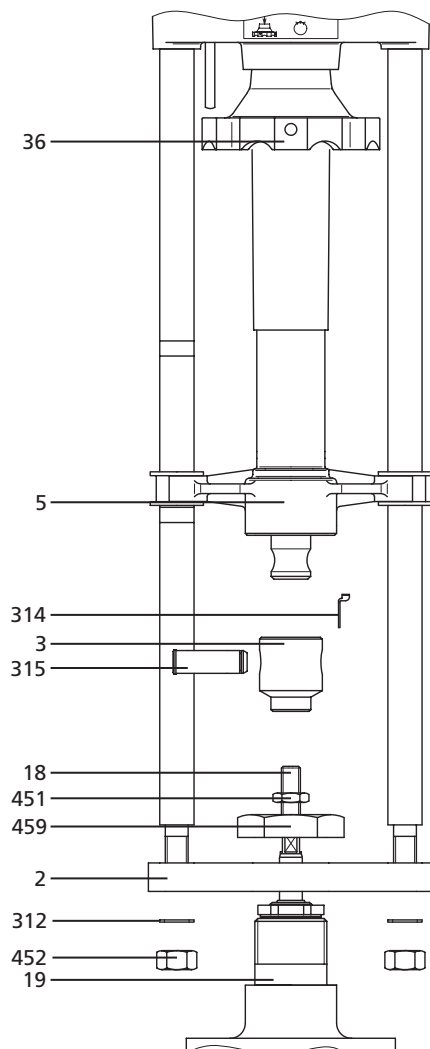

Fig 4.5 Mounting the linear actuator on the valve
- 1 Remove the blank (314) flange.
*See Fig 4.5.*
- 2 Remove the bolt (315) from the coupling (3) or force it out.
- 3 Rotate the hexagonal nut M10 (451) wrench size 17 onto the valve spindle (18).
- 4 Rotate the coupling (3) onto the valve spindle (18).
- 5 Use the flat hexagonal nut to lock the valve spindle (18) to secure it against distortion.
- 6 Place the actuator with traverse (2) onto the valve neck (19).
- 7 Fix the crossbeam (2) using a hexagon nut (459) spanner width 50 / 60.
- 8 Use the handwheel (36) to adjust the spindle nut (5) upwards so that the bolt (315) can be refitted.
- 9 Fit the blank (314) flange.